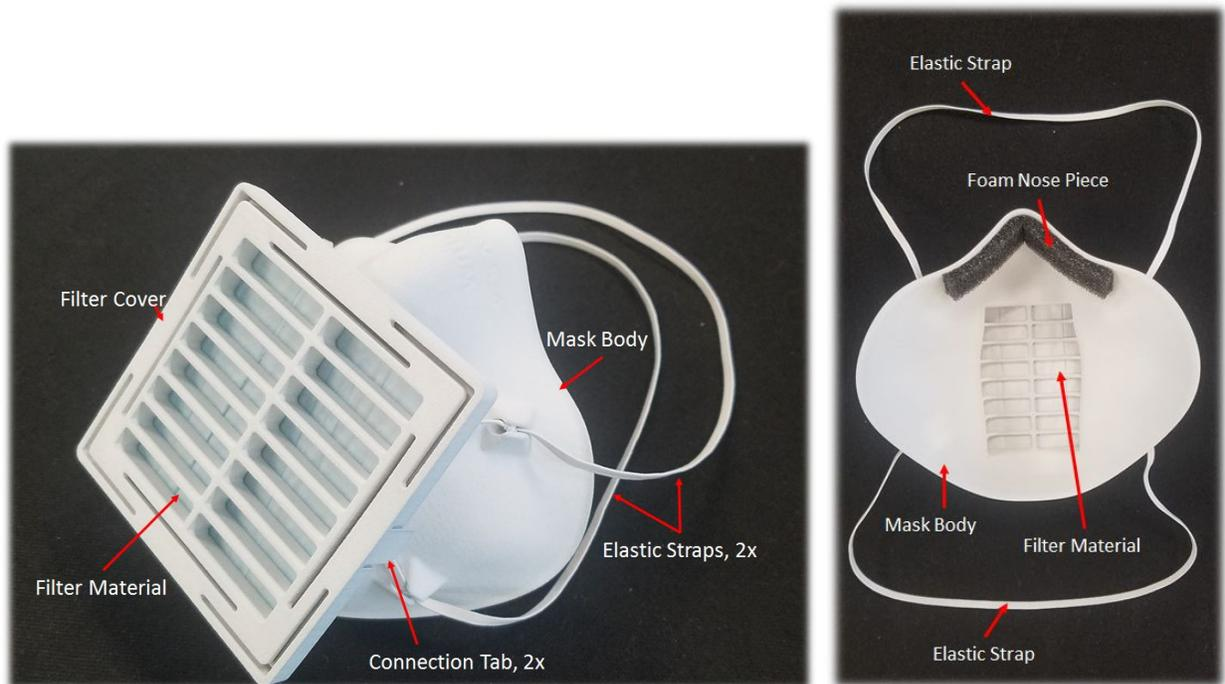

Fig. 3
9. Take one strip, approximately 4 in long, of the adhesive backed foam and remove the protective sheet on the back to reveal the adhesive. Stick the foam strip to the inside of the nose feature of the mask, making sure that it is aligned with the inside of the edge of the mask as shown in Fig 3.
11. Do a final inspection of the mask with all components assembled to ensure nothing is damaged or dirty and everything has been assembled properly as shown in Fig 3 below. Take special note to ensure the filter patch completely covers all the filter grill holes. **DO NOT USE THE MASK OR ANY COMPONENTS IF THERE IS ANY VISIBLE DAMAGE.** If any components are visibly damaged, properly dispose of the component and get a replacement.
3. Remove the filter cover by disengaging the two connection clips on either side of the filter cover, these tabs are shown in Fig 3. This will allow the filter cover to be removed from the mask body and the filter material to be accessed. Then properly dispose of the filter patch.